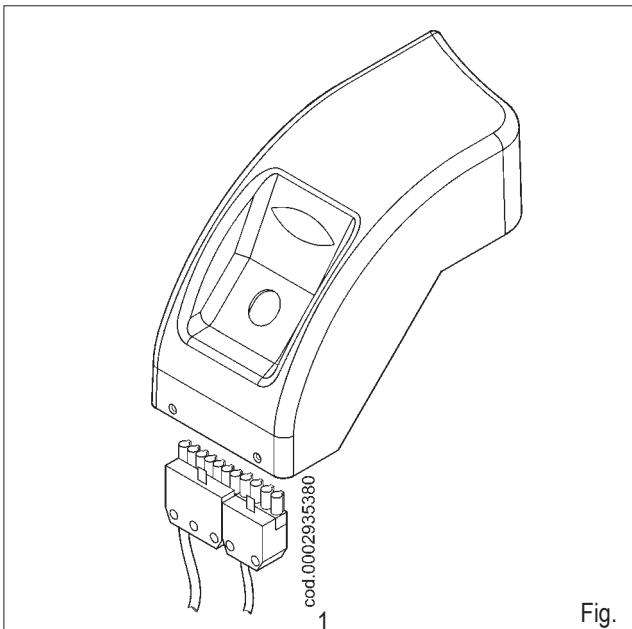

Fig. 1
- 1) Following the instructions detailed in the "Maintenance" paragraph, extract the mixer assembly and remove the screw (1) which connect the unit's forward movement rod (2) to the gas delivery pipe (3).
- (3) Remove the screw (5) which connects the gas mixer (6) to the pipe (figure 1).
- 2) Turn the bend coupling through 180° (4) and the mixer (6), in such a way that the inlet gas is turned upwards (figure 1). Again fix the mixer and the unit's forward movement rod to the gas delivery pipe.
- 1) Insert the 7 and 4 pole plugs for version "P", in the appropriate sockets located below the electrical panel base as shown in figure 1.